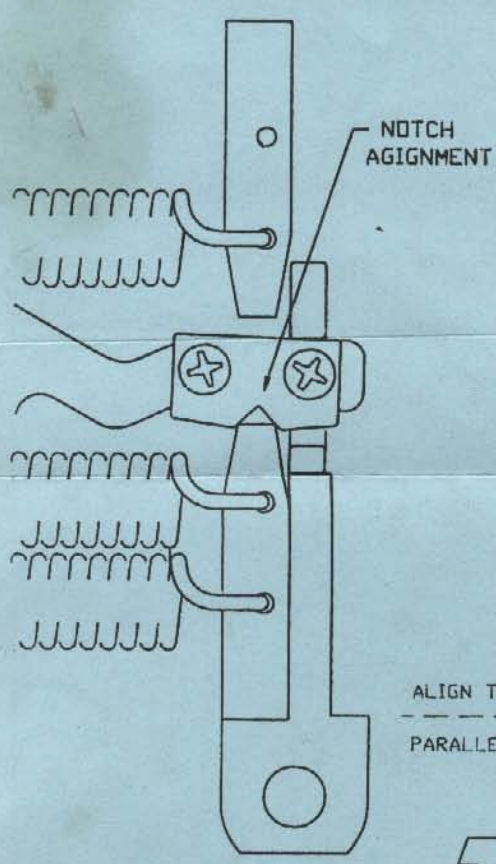
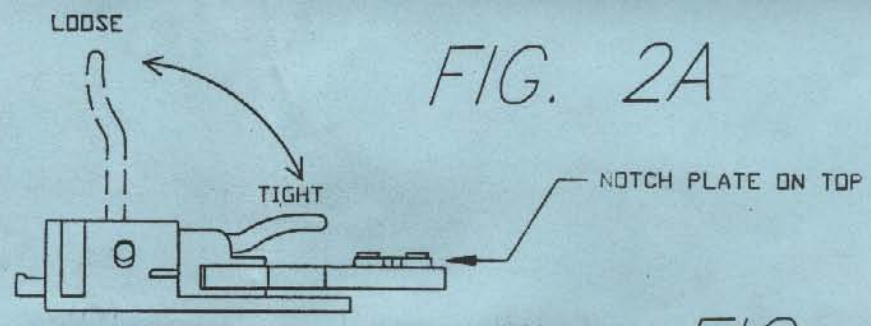

FIG. 4
FIG. 2A
9. The AUTO-LATCH™ INDEX ASSEMBLY should resemble **Figure 2A**, with the POSITION-SET LEVER in the "TIGHT" position and the SWING-ARM SLIDE fully retracted so that there is no gap between it and the INDEX HOUSING. (If there is a gap, flip the POSITION-SET LEVER up to the "LOOSE" position and move the SWING-ARM SLIDE back so that there is no gap. Push the POSITION-SET LEVER back to the "TIGHT" position.)
11. Release the POSITION-SET LEVER by pulling it up to the "LOOSE" position as in **Figure 2A**. Slide the NOTCH PLATE out toward the tremolo until its notch falls in alignment with the lower block of the tremolo, as shown in **Figure 4**. Carefully reach around to the tremolo arm and rotate it about 90 degrees in the direction of the guitar's volume knob, until the Y-SLIDE pulls the notch to engage the lower block of the tremolo.